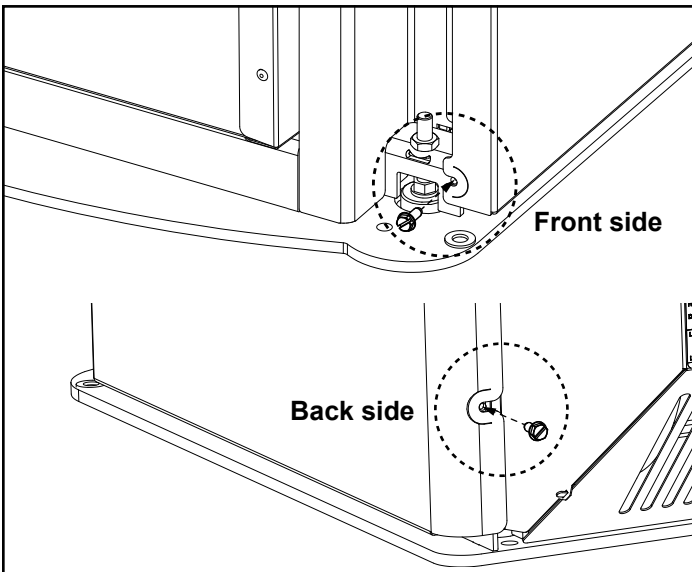

Figure 2
**Step 2:** Tighten the (4) 10-24 x 1/2" Thread cutting screw using a 5/16" nut driver, (2) Thread cutting screws per panel. Figure 2. **(Note: The door does not need to be removed to access screws.)**